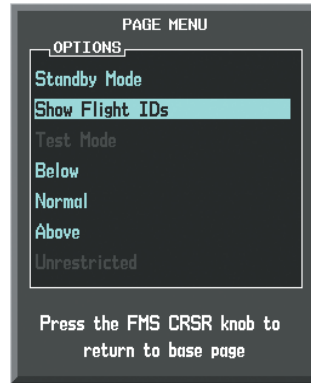

Figure 6-172 Traffic Map Page Menu
- 2) Turn the small **FMS** Knob to select 'Show Flight IDs' or 'Hide Flight IDs' (choice dependent on current state) (Figure 6-172).